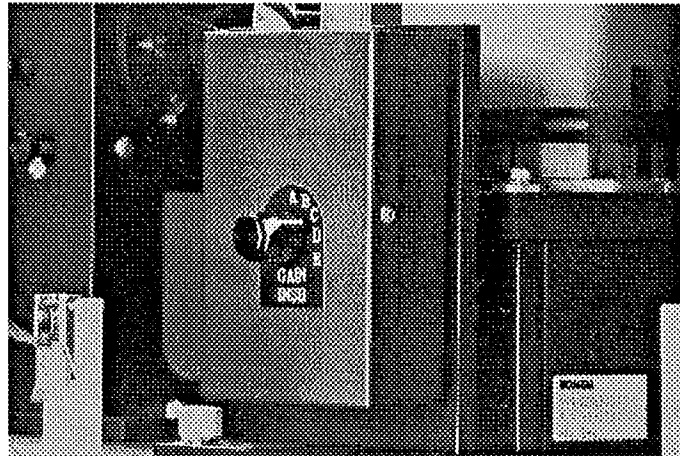

Figure 13. Preamplifier gain control
- c) Set the preamplifier gain (Figure 13) to maximum, that is, position E.